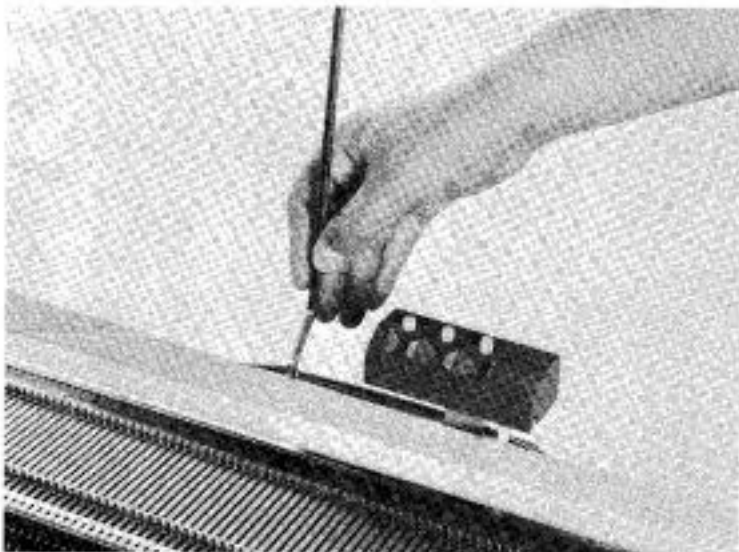

Fig. 15
10. Into the small Socket under the Carrying Handle at the back of the Machine, insert the square end of the Rod in such way that the Rod leans backwards and the flat end is at the top. (Fig. 15)